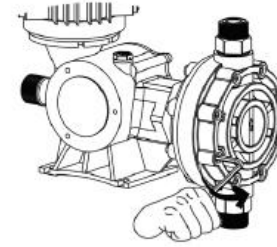

Figure 6
- ◆ Loosen the screws on the pump head in diagonal sequence. (See figure 6)